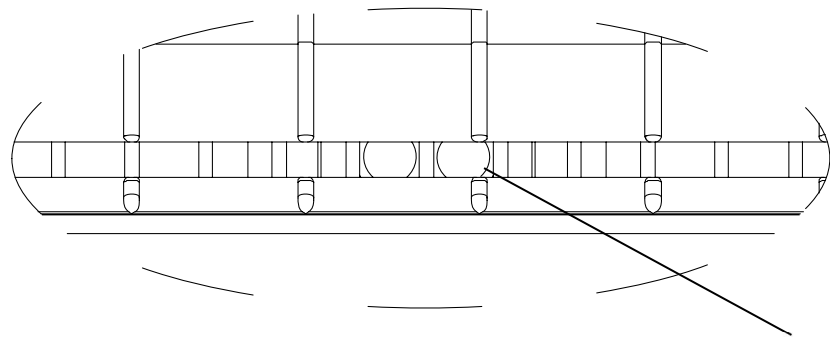

Figure 6-2
2. Lift the Handle of the Printhead to release the Printhead Module, then lift the Printhead Module to expose the Media Sensor cover (see Figure 6-2).